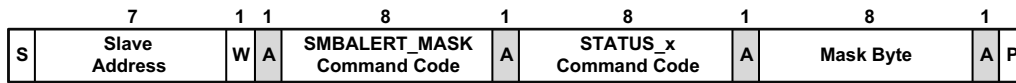

Figure 31. SMBALERT\_MASK Command Packet Format
The command format used to block a status bit or bits from causing the SMBALERT# signal to be asserted is shown in Figures 31 and 32. The bits in the mask byte align with the bits in the corresponding status register. For example, if the STATUS\_TEMPERATURE command code is sent with the mask byte 0100000b, an over-temperature warning condition would be blocked from asserting SMBALERT#.
**Note:** Figure 31 shows the command format used by the host to determine the SMBALERT\_MASK setting for a given status register.